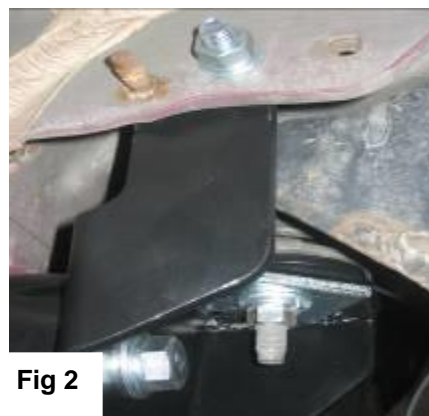

Fig 2
2. Locate the correct Side Bar and set of Brackets referenced to the illustration. (See Fig1, Fig2).